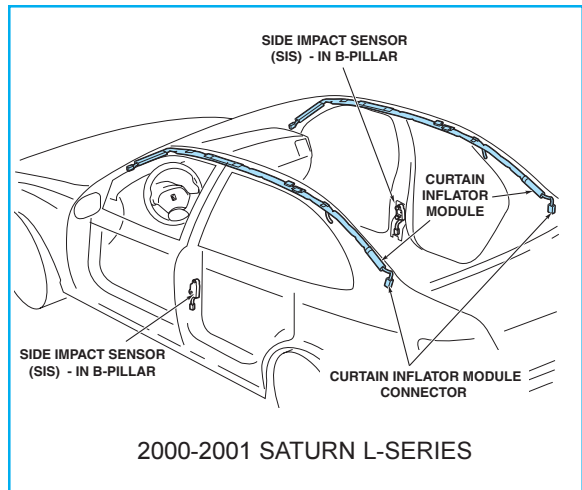

Figure 8
**A** As of this book's production, only two models use optional roof-mounted curtain air bags instead of the previously-described side impact air bags mounted in the doors or seats — 2000-2001 Saturn L- and S-Series (see Figures 8 and 9). This technology may be used on other models in the future.